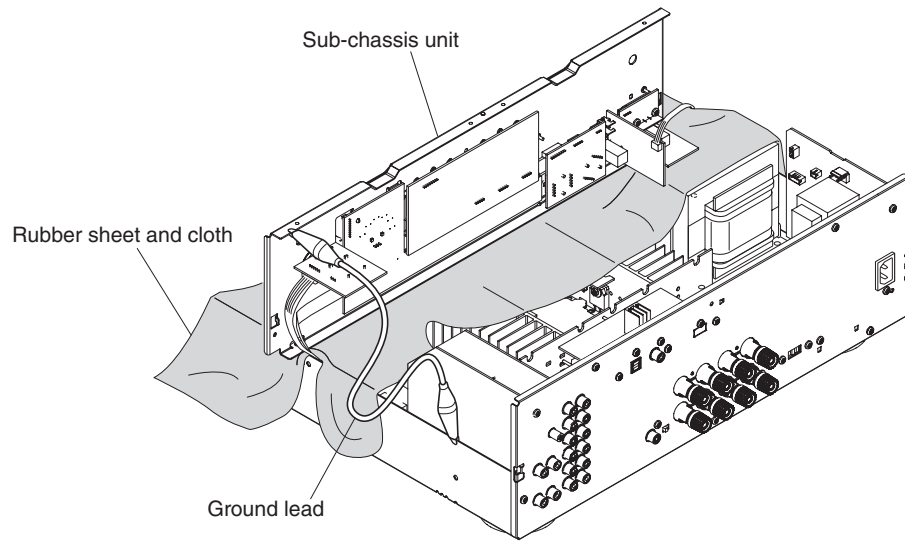

Fig. 4
- Put the rubber sheet and the cloth over this unit, Then place the sub-chassis unit on the cloth and check it. (Fig. 4)
- Connect the ground point of the sub-chassis unit to the chassis with a ground lead or the like. (Fig. 4)